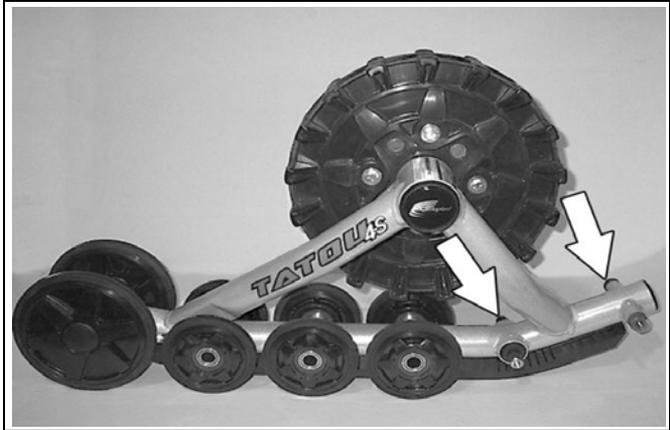

Figure 23
- Remove the two 202 mm wheels opposite to the track tensioner side (refer to Figure 23).